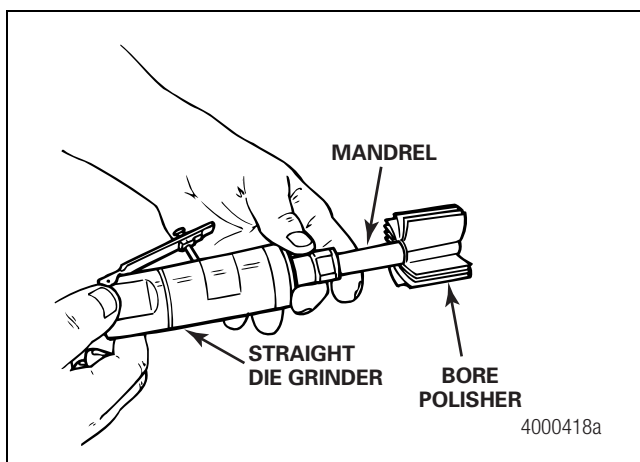

Figure 2.9
- Choose the correct sized bore polisher by matching the axle manufacturer and model to the bore polishing tools listed in Section 8. Figure 2.9.